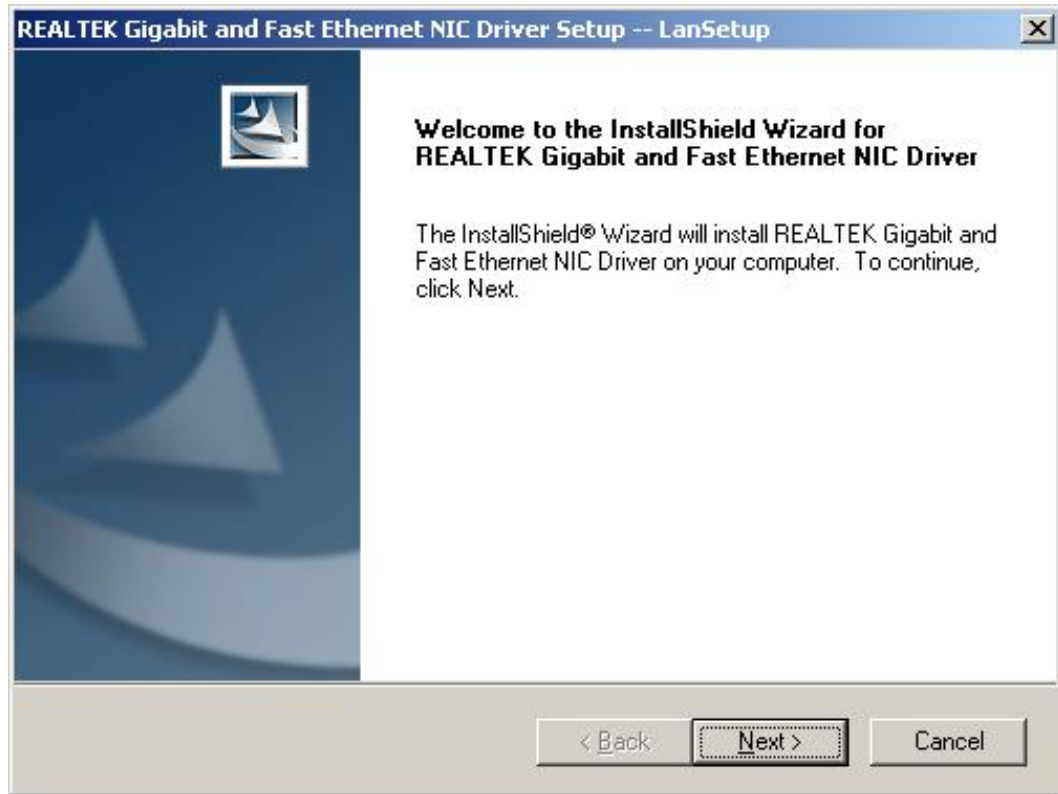

Figure 6-15: Install Wizard Welcome Screen
Step 6: Once initialized, the **Install Wizard** welcome screen appears (**Figure 6-15**).